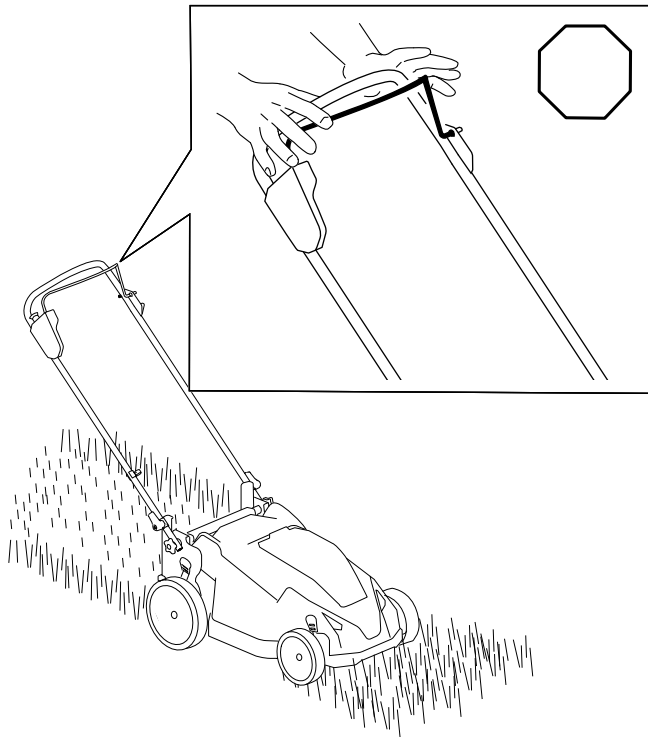

Figure 12
1. Release the blade-control bar (A of Figure 12).